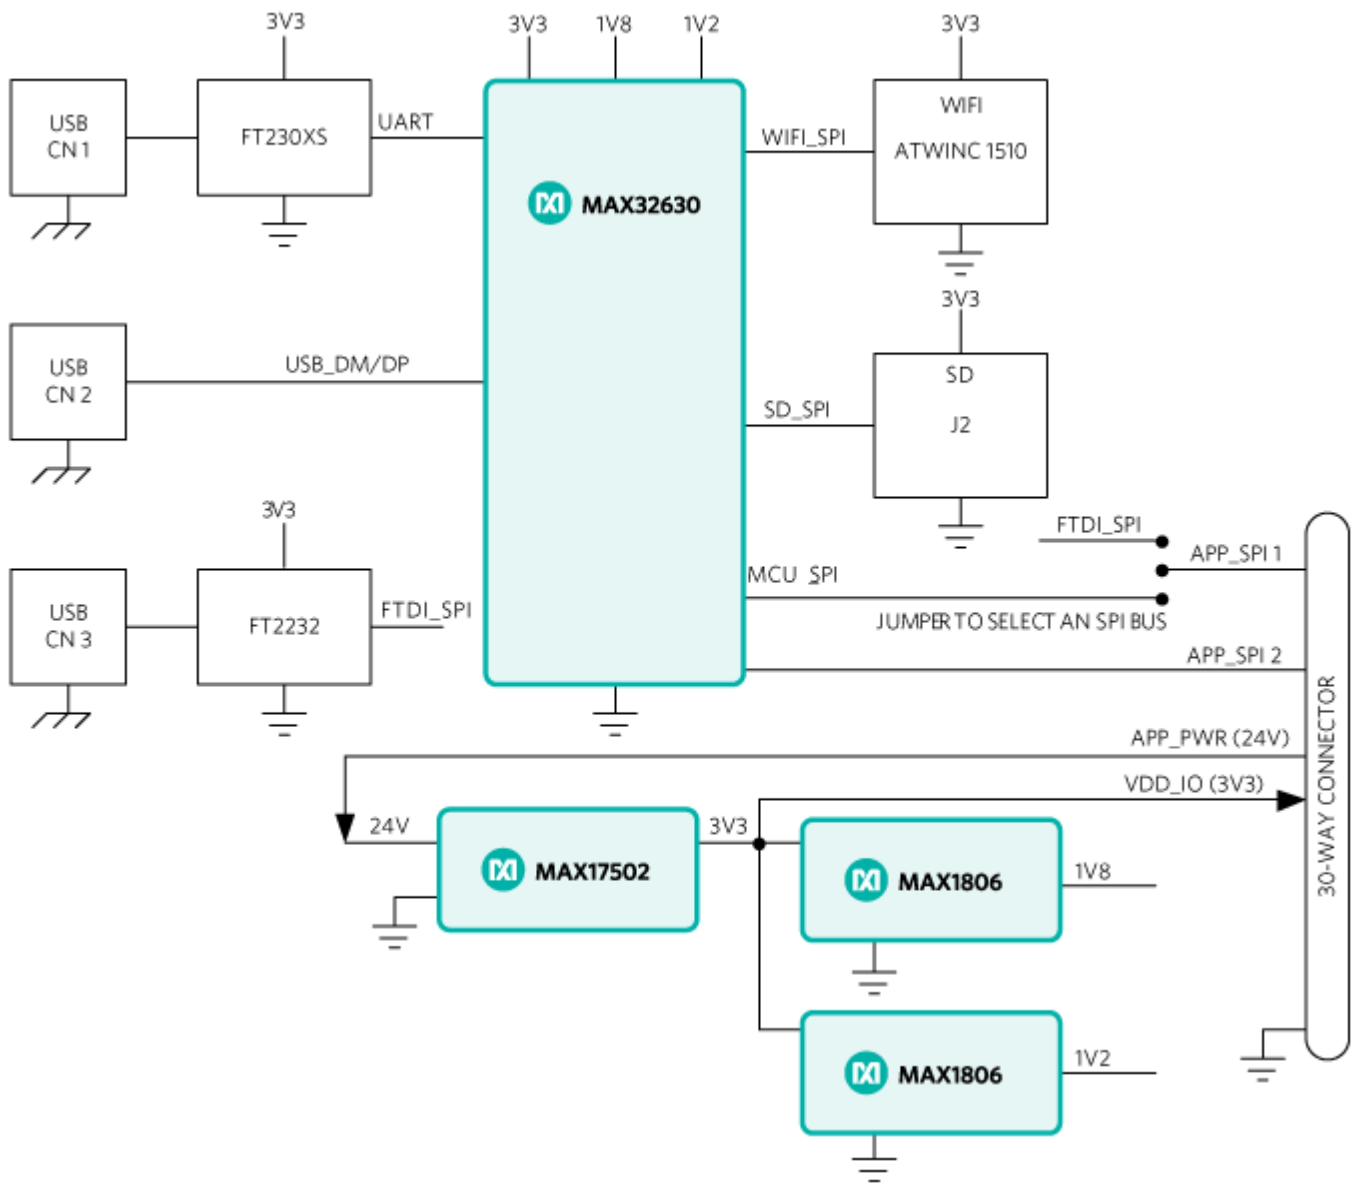

Figure 4. MAXREFDES211# block diagram.
**Figure 4** shows the system block diagram for the MAXREFDES211#.